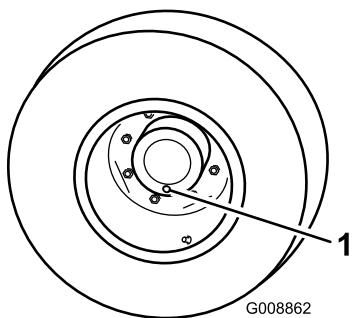

Figure 91
1. With the machine on a level surface, position a wheel so a check plug is at the lowest (6 o'clock) position (Figure 91).